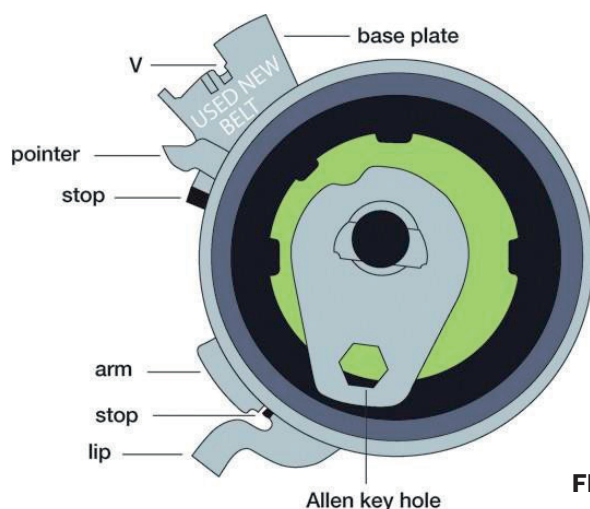

FIG. 1
6. Install the new tensioner, hand tighten the bolt. The tensioner lip **has to be** in the oil pump housing slot. (The tensioner pointer has to sit behind water pump pulley). The Allen key hole has **to be set** in +/- 7 o'clock position as shown in Fig. 1